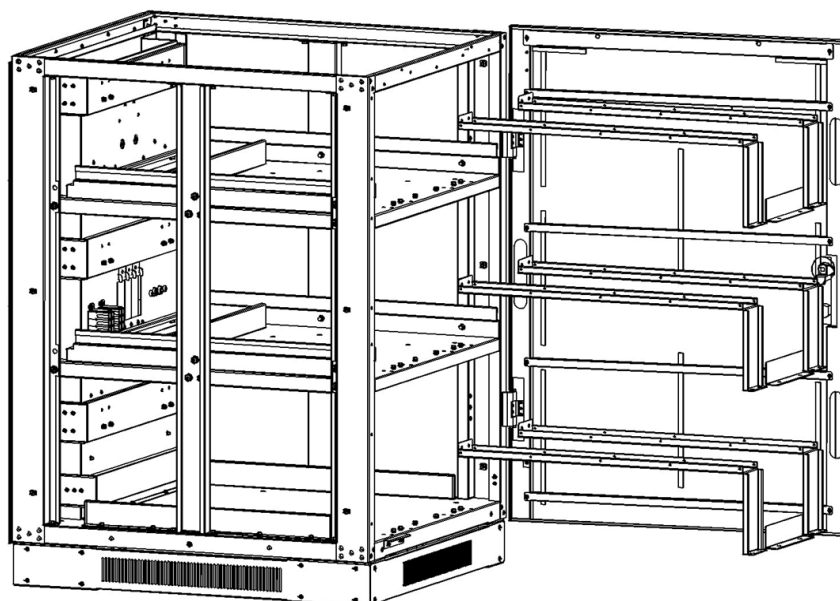

Figure 5-8
3. Remove all screws of the battery retention brackets and remove the retention brackets (Figure 5-8).